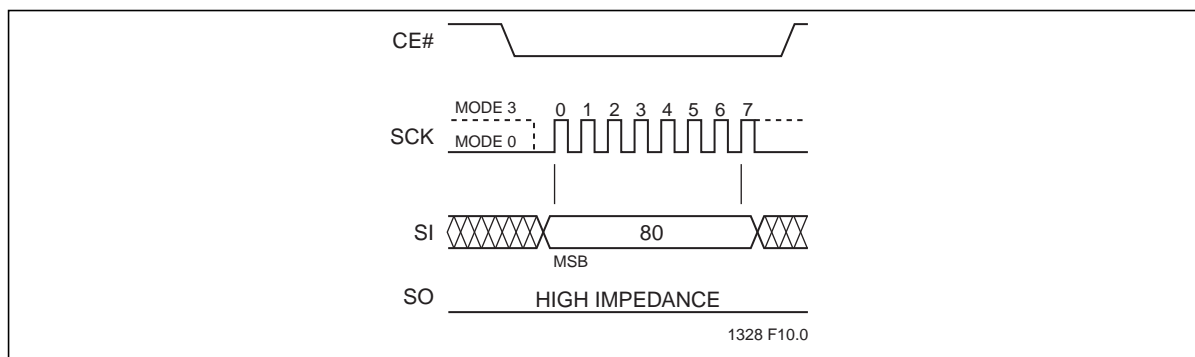

Figure 10: Disable SO as Hardware RY/BY# during AAI Programming
The 8-bit command, 80H, disables the Serial Output (SO) pin to output busy status during AAI-Word-program operation, and re-configures SO as an output pin. In this state, the SO pin will function as a normal Serial Output pin. At this time, the RDSR command can poll the status of the Software Status Register. This is shown in Figure 10.